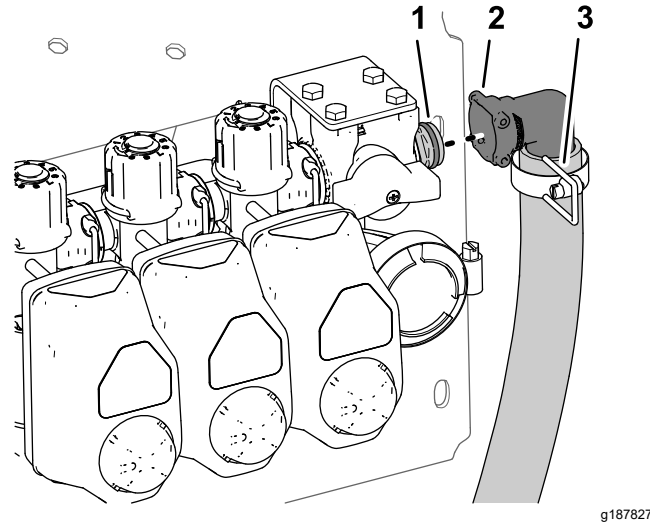

Figure 44
- Remove the retainer that secures the 90° barbed fitting of the bypass hose to the quick-disconnect fitting of the bypass valve at the right boom-section valve, and separate the hose and valve fittings (Figure 44).